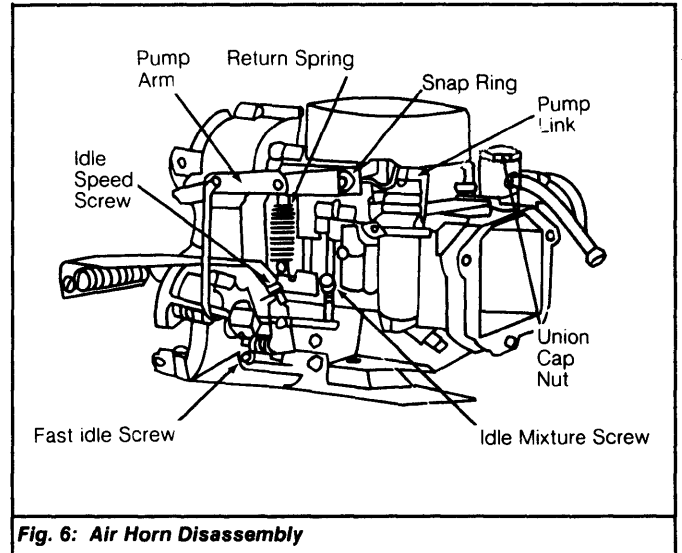

Fig. 6: Air Horn Disassembly
- 1) To disassemble air horn, remove pump arm return spring, then take out snap ring and remove pump arm and pump link. See Fig. 6. Remove fuel pipe union cap nut, then remove union and strainer.